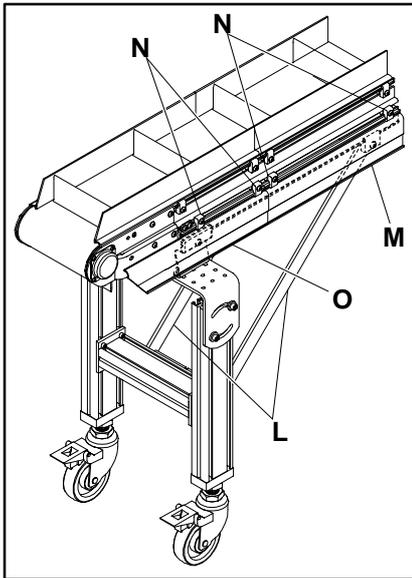
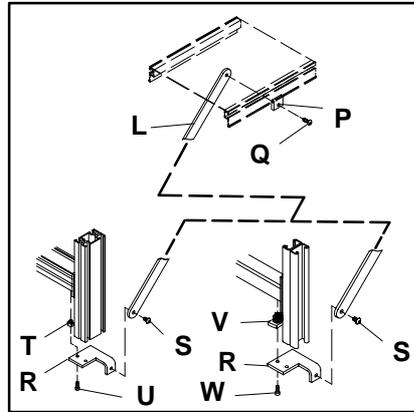
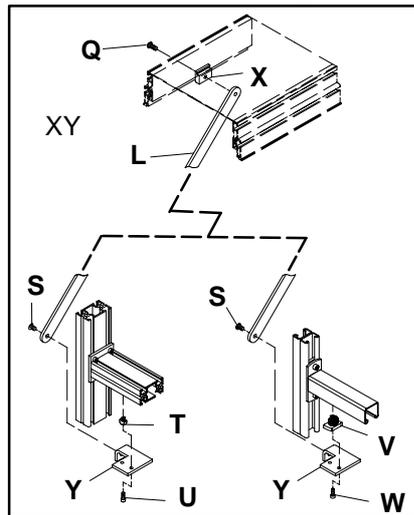

Figure 5: Aluminum Stand (with Casters and Diagonal Braces) Supporting Cleated Belt Conveyor with Return Belt Skirting
Figure 6: Aluminum Stand (left) & Steel Stand (right) Diagonal Brace Connection to 2100 Series Conveyor
Figure 7: Aluminum Stand (left) & Steel Stand (right) Diagonal Brace Connection to 3100 Series Conveyor
Domer recommends adding diagonal bracing (L of Figure 5) to aluminum extruded conveyors whenever casters are used. Attach and secure the top end of each diagonal brace (L) to the bottom lip of the conveyor sidewall with the appropriate 2100 Series clip (P of Figure 6) or 3100 Series clip (X of Figure 7) and an M8-1.25 x 18 mm button head screw (Q). On the bottom end, secure the diagonal brace (L) to appropriate right hand (R of Figure 6) or left hand offset plate (Y of Figure 7) with an M8-1.25 x 12 mm button head screw (S). Attach and secure the either offset plate to the stand cross member using either (2 each) M6 Spring Nuts (T) and M6-1.0 x 18 mm socket head cap screws (U) for aluminum stands or (2 each) M6 Spring Nuts (V) and M6-1.0 x 25 mm socket head cap screws (W) for steel stands.
When a cleated belt conveyor is equipped with return belt skirting, the section of skirting (M of Figure 5) that is over the brace to conveyor anchoring hardware must be temporarily removed for access. Loosen the attaching hardware and rotate each guide retaining clip (N) to detach the skirting section.
When a cleated belt conveyor is equipped with return belt skirting, the section of skirting (O of Figure 5) that is over the return belt roller assembly must be temporarily